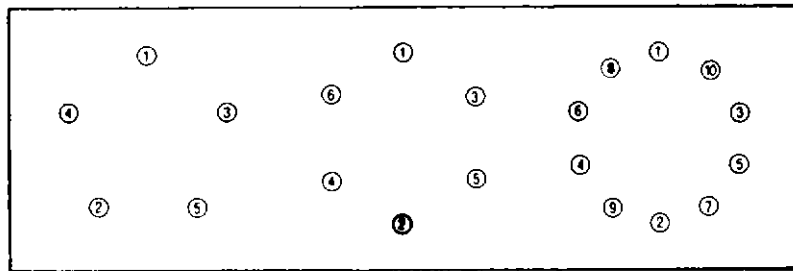

Figure 3.6
- When refitting a wheel, tighten the wheel nuts in a diagonal sequence (so that you do not move from one nut to the one next to it). Following a diagonal sequence helps ensure the wheel will run true. (Refer Figure 3.6)